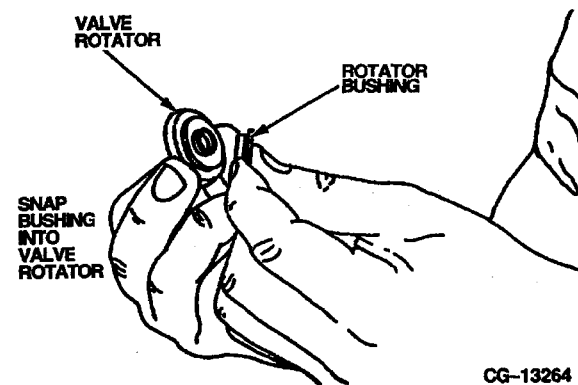

Figure 4.56. Assemble Rotator and Oil Shield
4. Snap the new rotator bushing (If Applied — See Note) into the valve rotator bottom side (rotator cone) as shown in Figure 4.56.